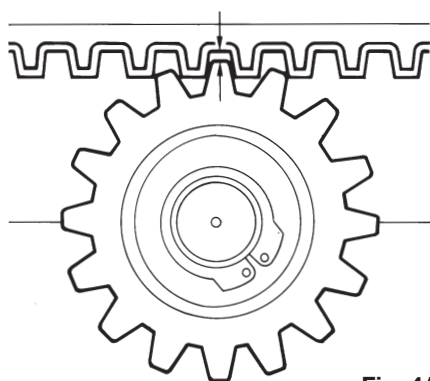
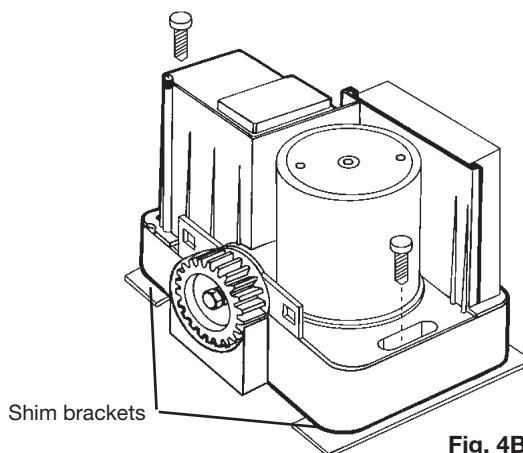

Fig. 4A
Fig. 4B
- 2 - A play of 2mm must be ensured between the pinion and the rack for the whole length of the gate (Fig. 4A). To do so position the spacers (provided) as shown in Fig. 4B and the gearmotor.
The result must be the same as that shown in Fig. 4A.